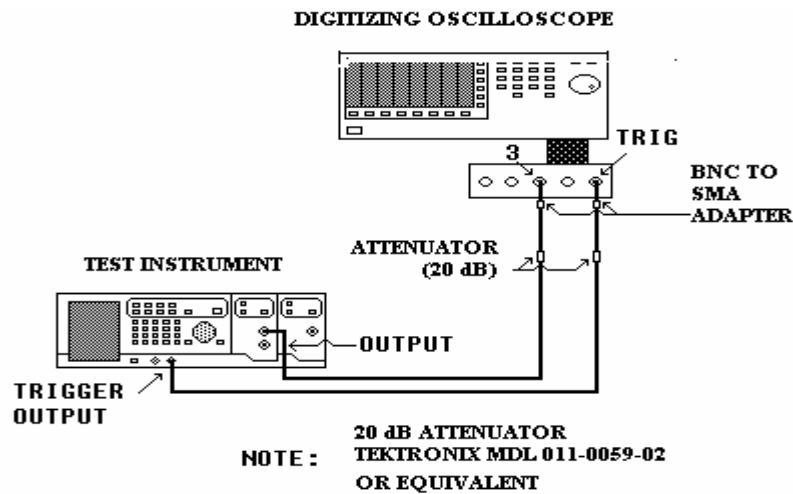

Figure 3. Period.
- (1) Connect equipment as shown in figure 3 below.
- (1) Connect equipment as shown in figure 3.
- (2) Reset digitizing oscilloscope and cal the gain.
- (3) Press TI pushbuttons as listed in (a) through (h) below: